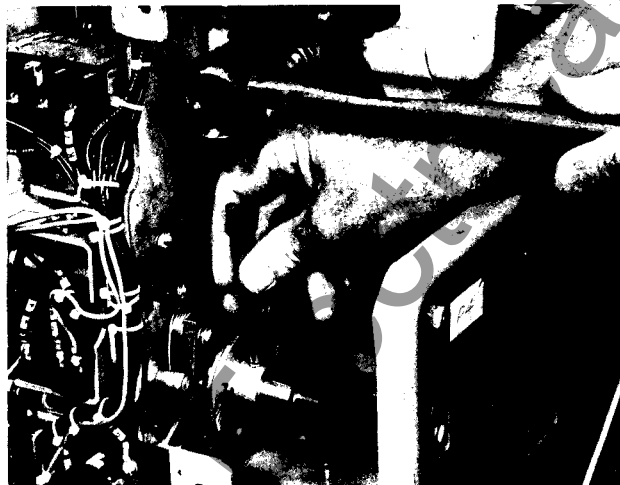

FIG. 4
6. For ease of roll pin removal, crank the crankshaft with the maintenance handle and advance the ratchet assembly two teeth. This will sound like two clicks. Use a 5" to 8" long, .228" diameter drill rod and a hammer to drive the roll pin out of the ratchet and crankshaft assembly, see figure 4.